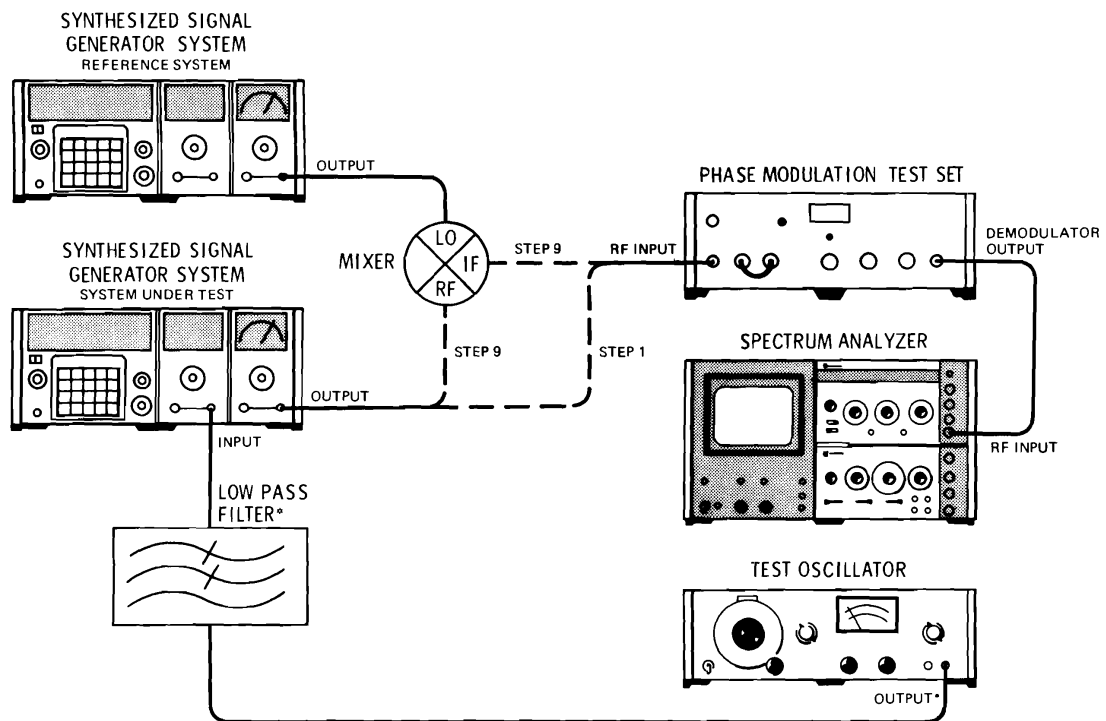

Figure 4-17B. Phase Modulation Distortion Test Setup (Alternate Procedure)
* In Figure 4-17B the test oscillator output impedance and Low Pass Filter impedance is 50 ohms when the modulation section is a Model 86634A and 600 ohms with a Model 86635A.
1. Set the Test Oscillator to 1 MHz, connect a 1 MHz low pass filter (50 ohm for 86634A, 600 ohm for 86635A) to appropriate test oscillator output and adjust for 1.7 Vrms output. Connect the rest of the equipment as shown in Figure 4-17B.